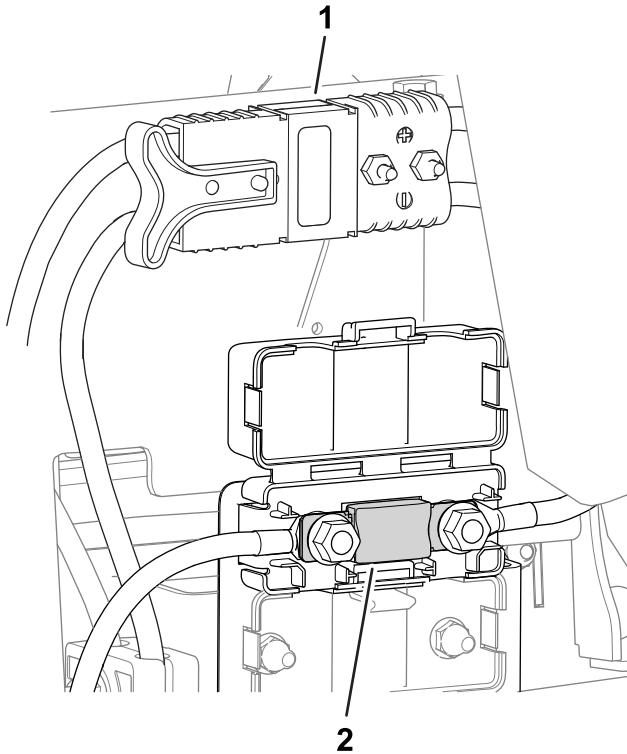

Figure 49
- The fuse for the electrical system is located under the main-power connectors (Figure 49).